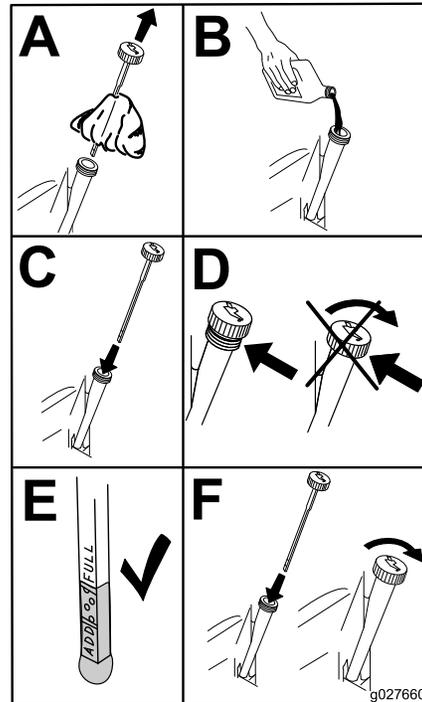

Figure 55
5. Slowly pour approximately 80% of the specified oil into the filler tube and slowly add the additional oil to bring it to the **Full** mark (Figure 55).